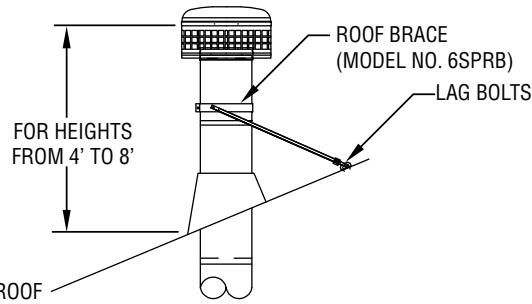
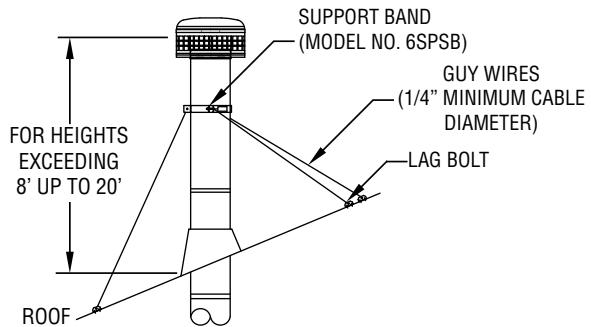

Figure 36
Figure 37
Select the proper support for your application-using either a roof brace (*Figure 36*), or a support band with guy wires (*Figure 37*)
3. Position the support legs as shown in *Figure 36*. The length of the support legs can be adjusted by loosening the bolt on the leg clamp.